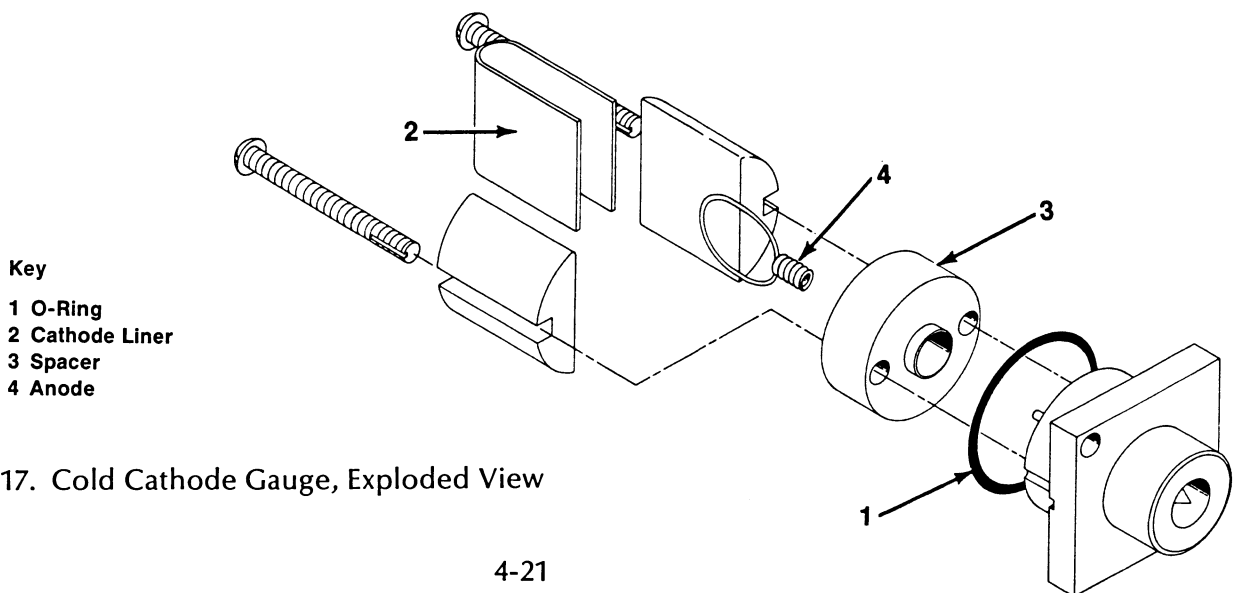

Fig. 4-17. Cold Cathode Gauge, Exploded View
3. Slip out cathode liner (2, Fig. 4-17). If liner is dirty, clean it with emery cloth, or replace it. If anode (4) must be removed, first remove side pole pieces, then very carefully twist the anode clockwise to loosen, while pulling to prevent cracking the ceramic feedthrough (3). This will appear to be screwing loop onto the pin. (This in fact loosens the grip of the anode onto the feedthrough.)